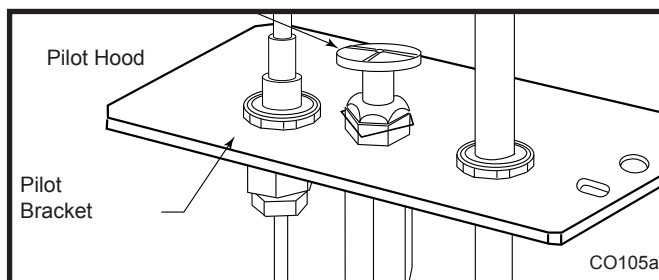

Fig. 53 Remove pilot hood.
- Remove pilot hood by lifting up. (Fig. 53) Do not remove snap ring to remove pilot hood. **NOTE:** It is not necessary to remove the pilot tube for conversion.